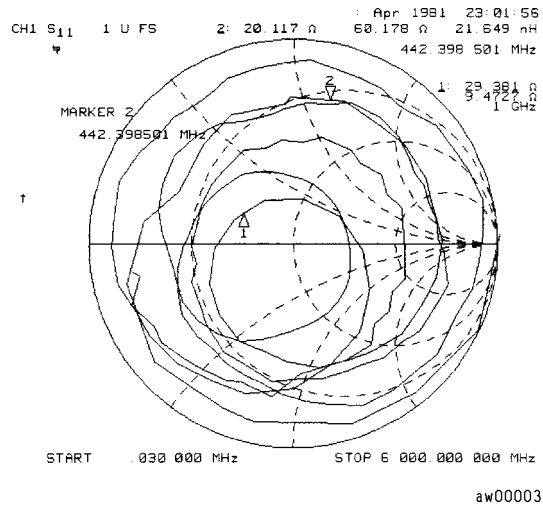

Figure 7-20. Example Impedance Measurement Trace
- 2 Press **MARKER FCTN**, *MARKER MODE MENU*, *SMITH MKR MENU*, and turn the front panel knob to read the resistive and reactive components of the complex impedance at any point along the trace, as shown in Figure 7-20. This is the default Smith chart marker.
- 2** Press **MARKER FCTN**, *MARKER MODE MENU*, *SMITH MKR MENU*, and turn the front panel knob to read the resistive and reactive components of the complex impedance at any point along the trace, as shown in **Figure 7-20**. This is the default Smith chart marker. Press *G+jB MKR*.